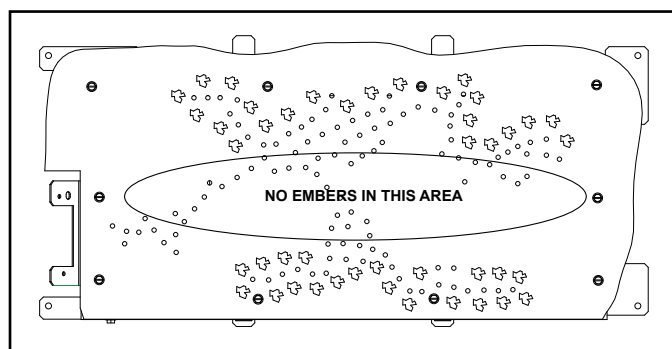

Figure 11.18 Ember Placement
- Place dime-size pieces of Glowing Embers® just in front of the port trail, but not on or in between the ports. See Figure 11.18. Embers are to be placed adjacent to burner port holes. Care should be taken so that the ports are not covered. Failure to follow this procedure will likely cause lighting and sooting problems.